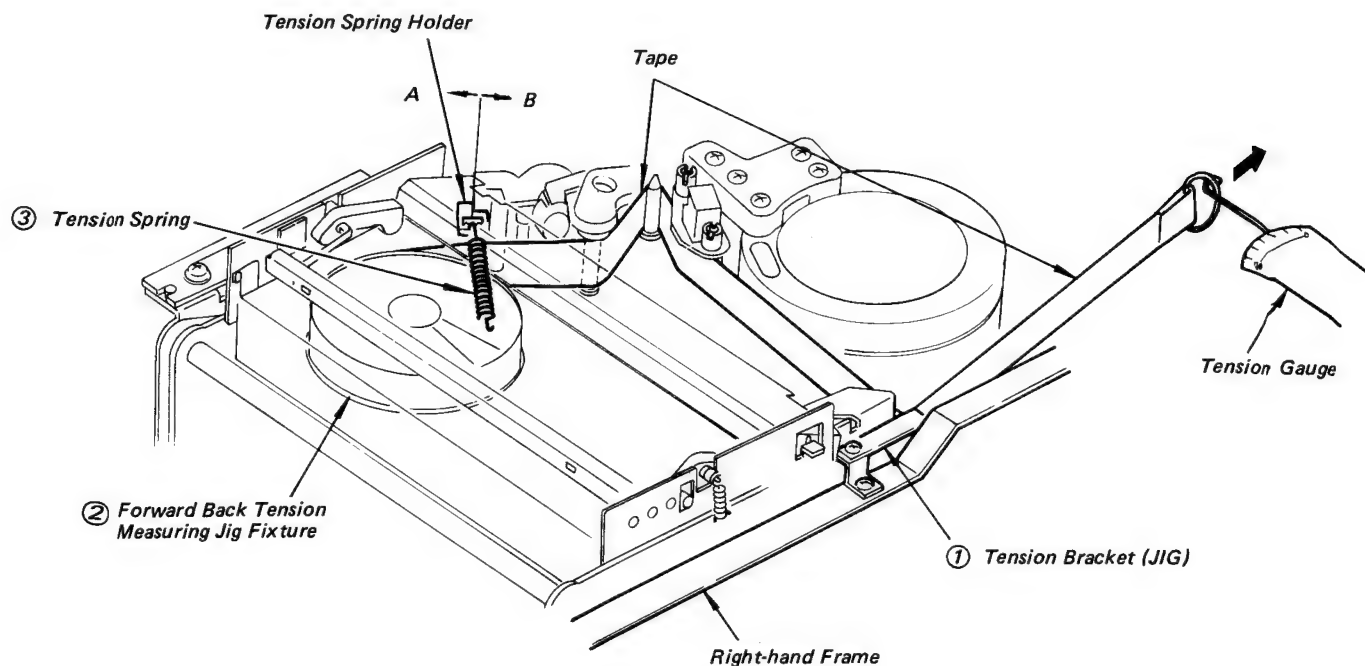

Fig. 5-92 Back Tension Adjustment
## 29. Checking and Adjusting the Back Tension in Recording and Playback Modes (Fig. 5-92)
4. Mount the playback forward back tension measuring jig fixture ② in position on the supply reel table.
5. Wind the tape as illustrated in Fig. 5-92.